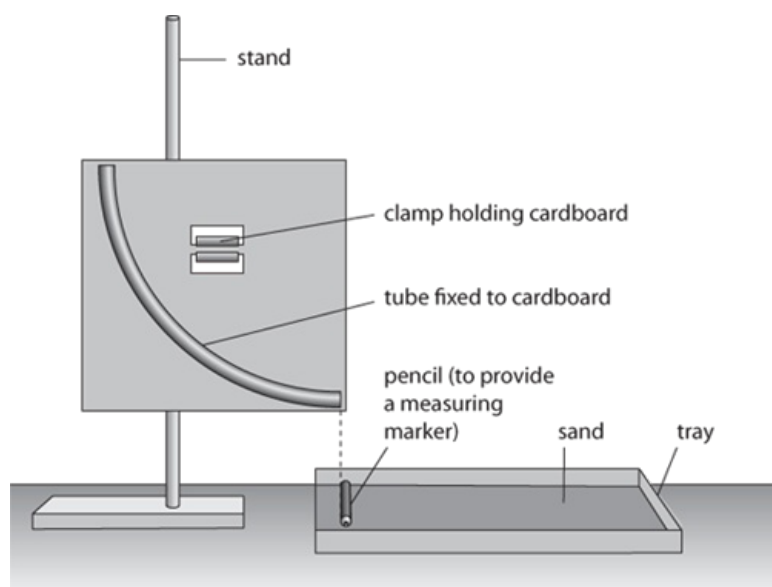

Figure 3.4: Curved tube fixed on cardboard sheet.
- 1 Set up the apparatus as shown in Figure 3.4.